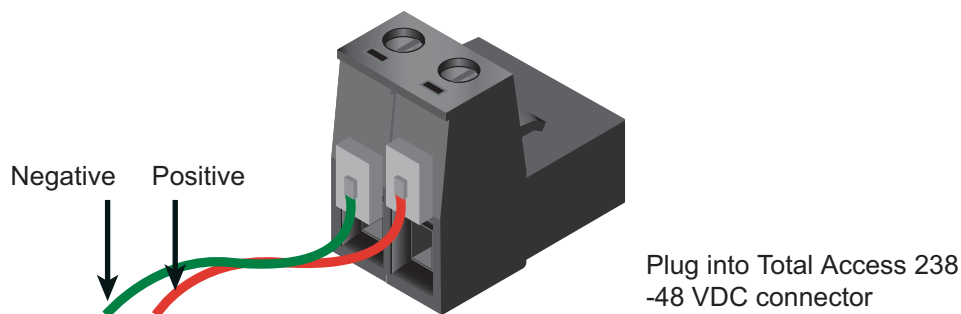

Figure 10. –48 VDC Connector
2. If removed, re-insert the connector into the plug on the rear panel. See Figure 10.